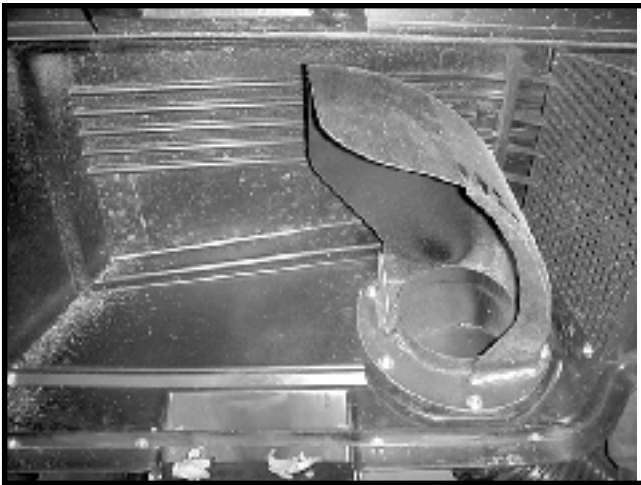

FIGURE 3B
4. Secure the hanger to the rear bracket with two bolts (HCS 5/16 x 3/4) and nyloc nuts (5/16). See Figure 3B.